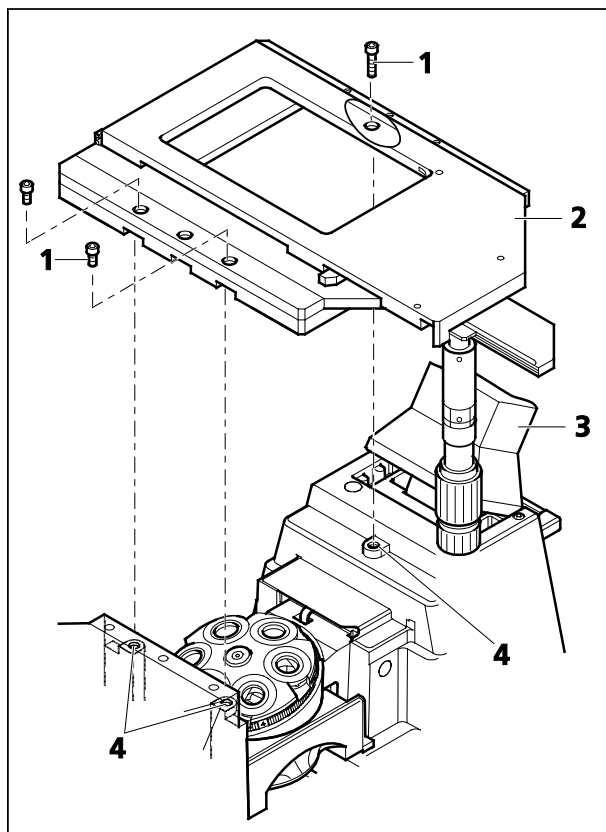

Fig. 21 Mounting the mechanical stage 130x85
- To improve access during stage assembly, the carrier for transmitted-light illumination (Fig. 21/3) (if available) can be tilted backwards.
- Place the mechanical stage (Fig. 21/2) on the three contact points (Fig. 21/4) of the stand and fix it in position using three Allen screws (Fig. 21/1) (two at the front, one at the rear).